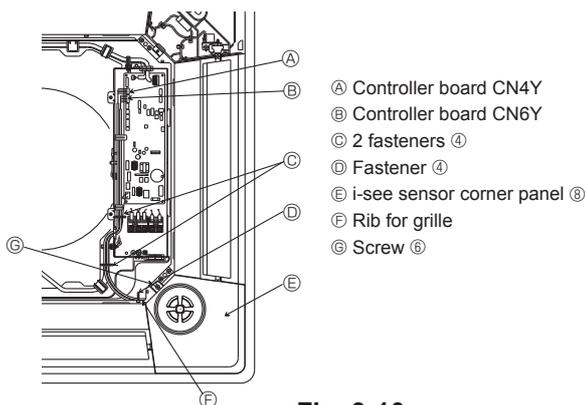

Fig. 9-10
④ Refrigerant piping of the main unit
⑤ Drain piping of the main unit
⑥ Initial position of the corner panel (logo attached)
⑦ Initial position of the levers on the intake grille
⑧ Receiver (Only PLP-6BALM, PLP-6BALME Panel)
⑨ i-see sensor (PLP-6BAE, PLP-6BAMDE, PLP-6BALME panel)
9.6. Installation of i-see sensor corner panel (Fig. 9-10)